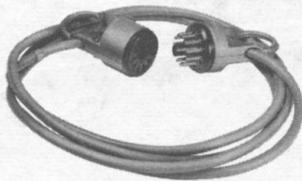

Fig. 6 — P11C Test Cord
- PIIC test cord* (Fig. 6)
- P11C test cord* (Fig. 6)